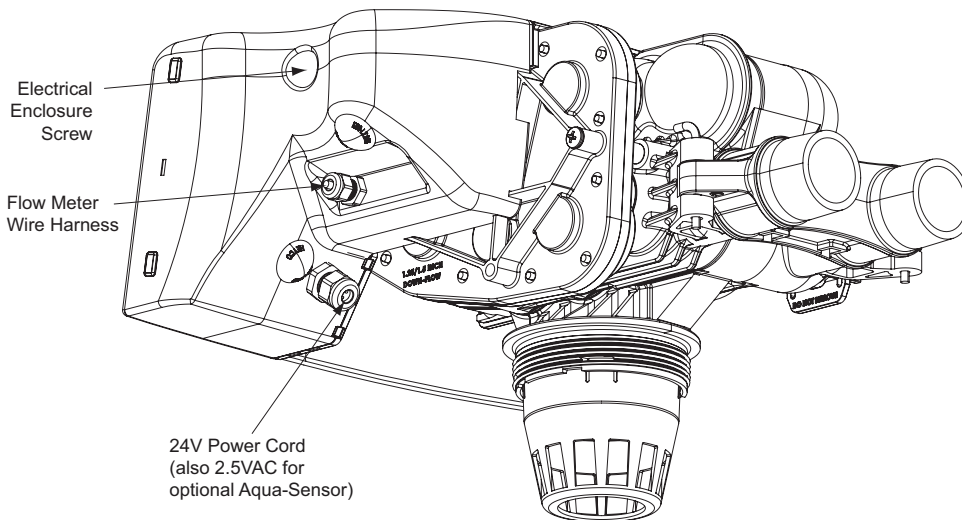

Figure 55. Electrical and accessory connections.
1. Remove the electrical enclosure from the control valve. Remove the electrical enclosure screw, and then gently remove the enclosure from the control. See Figure 55.